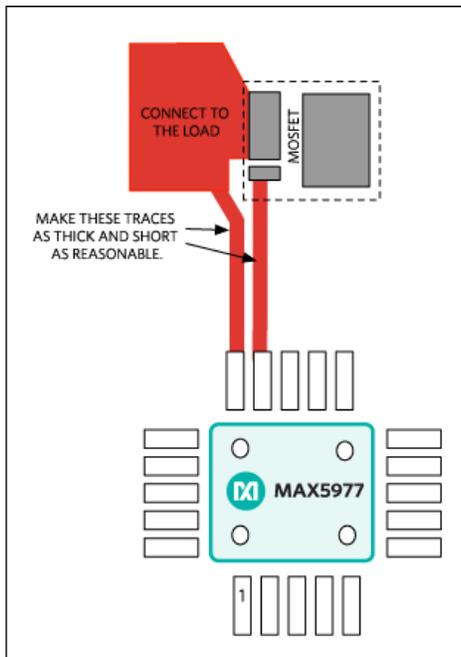

Figure 11. Connect the GATE and SOURCE pins to the external FET with short and wide traces. This keeps the turn-off time short by minimizing trace inductance.
- The traces connecting the GATE and SOURCE pins to the external FET should be as short as reasonable to minimize parasitic inductance. Thicker traces should be used to also minimize inductance and to support the 500mA discharge current. See **Figure 11**.